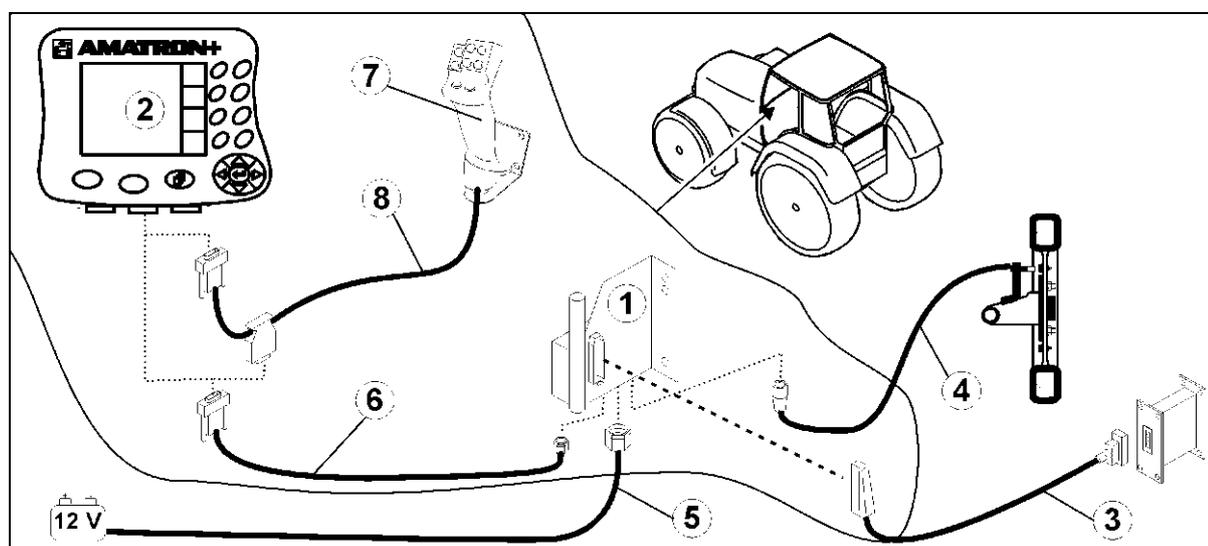
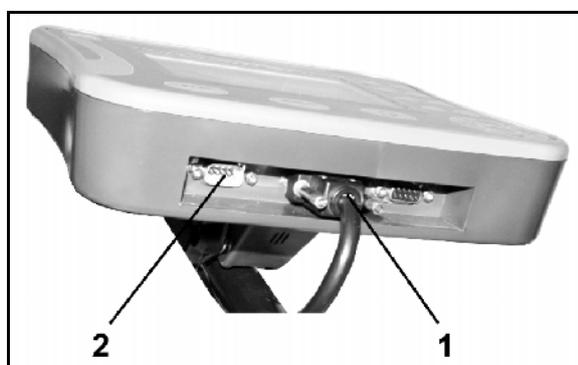

Fig. 1
Fig. 2
- The tractor's basic equipment (Fig. 1/1 console with distributor) must be installed to the right of the driver in the cab, within visual range and easy reach, so that it is vibration-free and electrically conductive.
- The battery cable (Fig. 1/5).
- Signal cable from the tractor signal socket or distance sensor (Fig. 1/4).
- Connecting cable to AMATRON⁺ (Fig. 1/6).
- Plug the AMATRON⁺ (Fig. 1/2) into the tractor's basic equipment.
- Insert the connector of the connecting cable (Fig. 1/6) into the middle 9-pin Sub-D bushing (Fig. 2/1).
- Connect the machine via the connector (Fig. 1/3) to the AMATRON⁺.
The multifunction stick (Fig. 1/7) is connected using a Y-cable (Fig. 1/8).
- The serial interface (Fig. 2/2) allows a PDA to be connected.